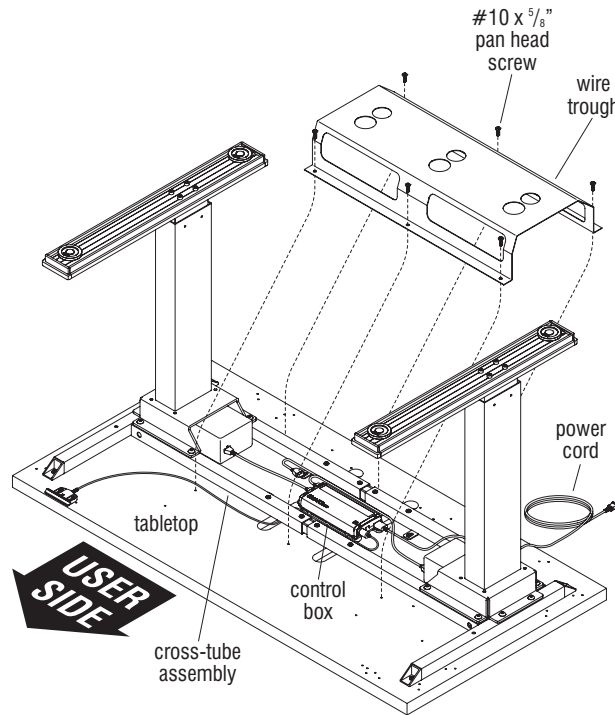
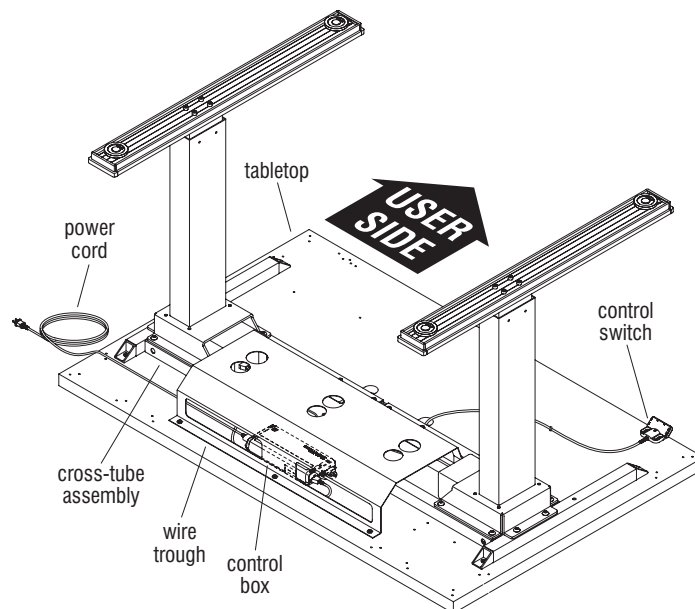

Figure 5 - Centered Wire Trough with Control Box Between Cross-Tube Assembly
Figure 6 - Behind Cross-Tube Assembly Wire Trough, 30" or 36" Table Depth
Note: To prevent interference, Universal Height-Adjustable screens cannot be used on 30" deep Toggle Tables when the control box is mounted to one of the three mounting locations behind the cross-tube assemblies as shown on page 4, Figure 6.
Note: Control cables can be routed differently than shown. The control box can be mounted to the underside of tabletops 24" in depth between the cross-tube assembly (Figure 5). Control boxes mounting under tabletops 30" or 36" in depth can mount in one of three mounting locations. If the control box is mounted between the cross-tube assembly, reference Figure 5 for placement of the wire trough. If the control box is mounted behind the cross-tube assembly, reference Figure 6.
1. Align the wire trough mounting holes to the appropriate holes in the tabletop, making sure the larger cutouts on the trough are facing the user side of the table. Using six #10 x 5/8" pan head screws, secure the wire trough to the tabletop as illustrated (Figures 5 & 6).